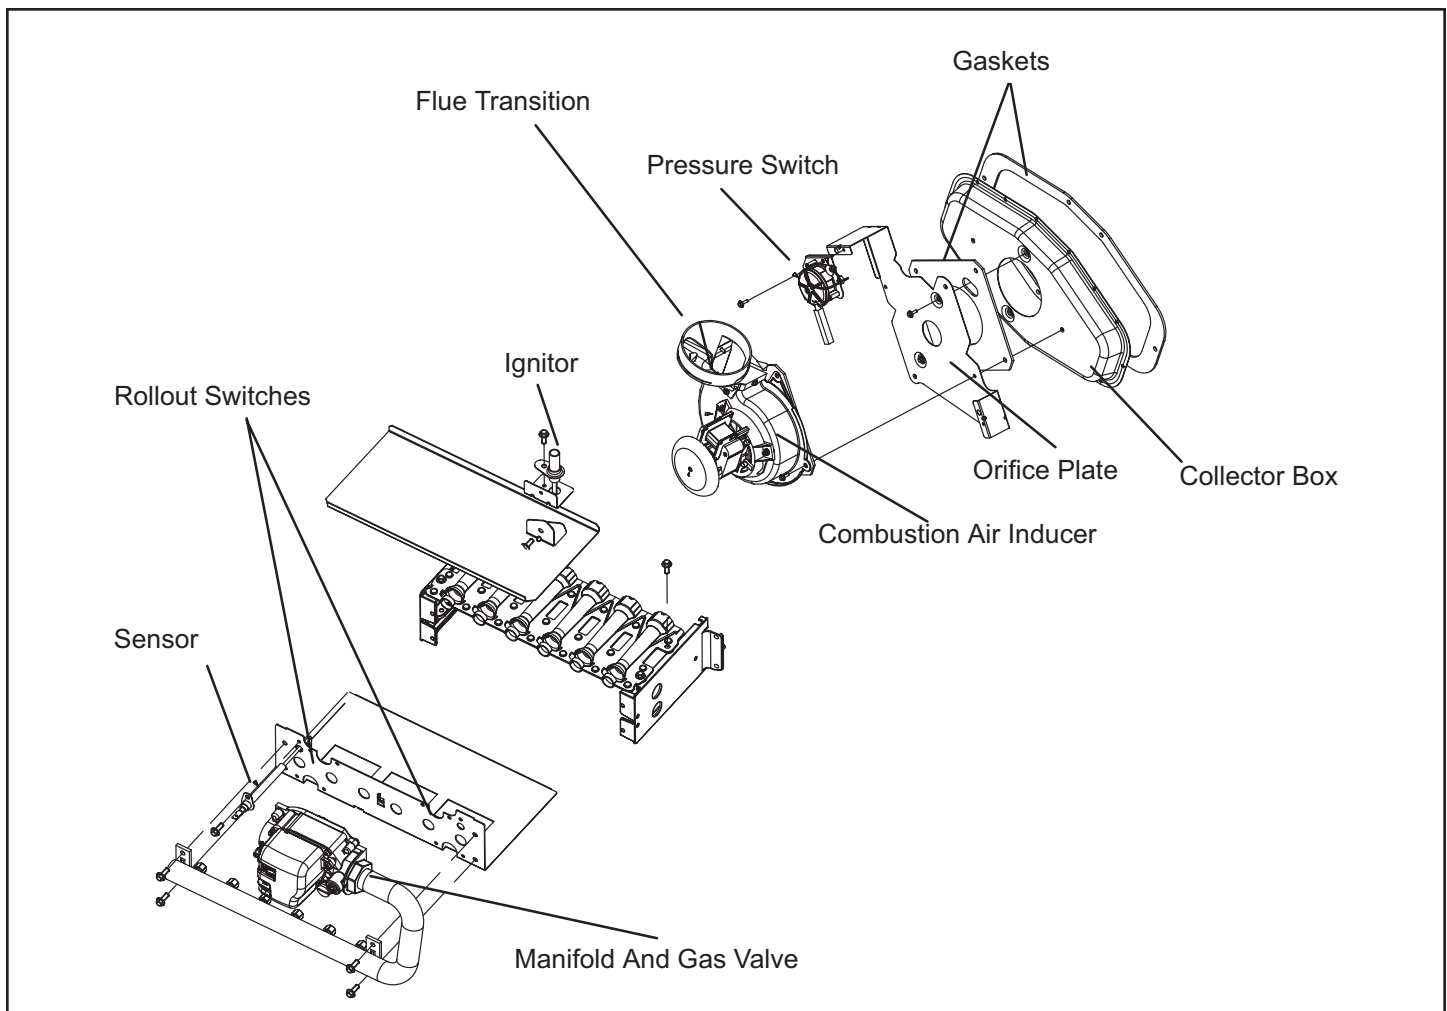

Figure 6. Heating Components
The hot surface ignition control system consisting of an integrated control (Figure 3 with control terminal designations in Table 1 through Table 3), sensor and ignitor (Figure 6). The integrated control and ignitor work in combination to ensure furnace ignition and ignitor durability. The integrated control, controls all major furnace operations. The integrated control also features a RED LED for troubleshooting and two accessory terminals rated at (1) one amp. See Table 4 for troubleshooting diagnostic codes. The nitride ignitor is made from a non-porous, high strength proprietary ceramic material that provides long life and trouble free maintenance.
Ignitor (Figure 6)
Flame Rollout Switches (Figure 6)
Flame Sensor (Figure 6)
Gas Valve (Figure 6)